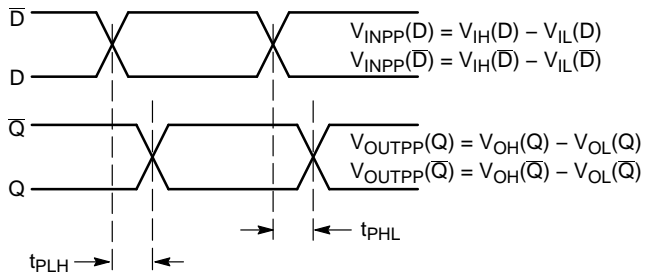

Figure 16. AC Reference Measurement
| t_{PLH} , t_{PHL} | Propagation Delay to Output Differential (Figure 16) D/SEL → Q | 110 | 160 | 210 | 115 | 165 | 215 | 120 | 170 | 220 | ps |
27. $t_{SKEW} = |t_{PLH} - t_{PHL}|$ for a nominal 50% differential clock input waveform. See Figure 16.